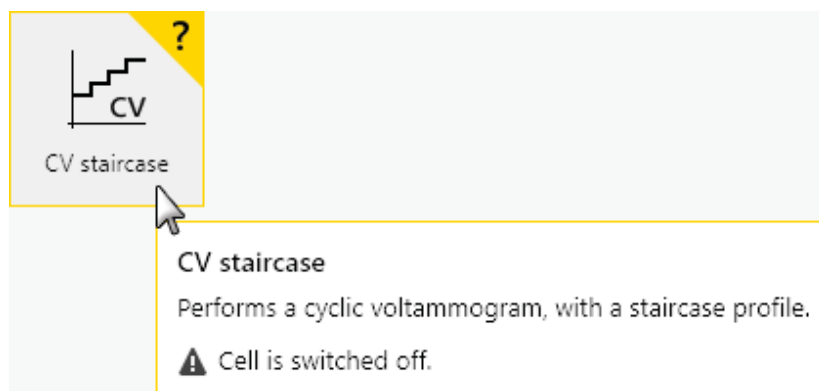

Figure 13 Warnings are highlighted in yellow
- **Warning:** any item highlighted in yellow indicates that an issue has been identified and that user intervention is recommended in order to resolve the issue (see figure 13, page 19). Whenever possible, the cause and a possible solution will be offered. It is possible to ignore the warning and continue working with the software however this may lead to invalid data.